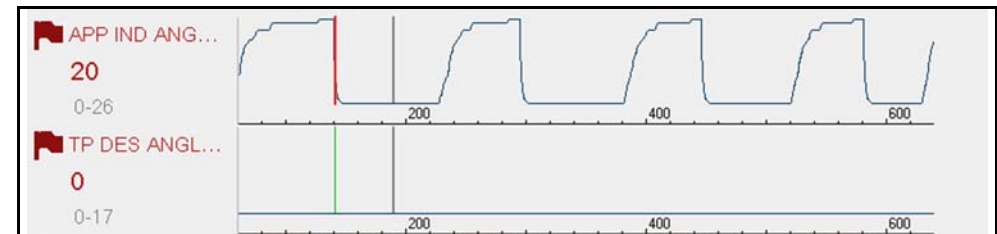

Figure 6-17 Triggers activated
- A red cursor line is displayed on the graph (Figure 6-17) of the PID with the activated trigger to indicate where the trigger occurred.